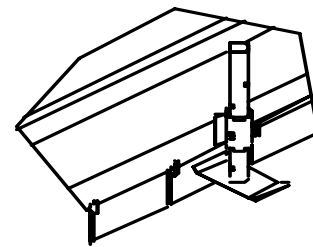

Figure 3
- During operation and transport, the jack stands should be locked in their highest position (figure 3, page 2-1).